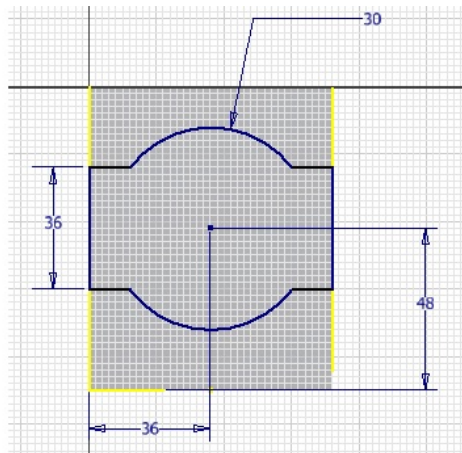

Figure 5-93 Sketch for the cut feature
- c. Create the next cut feature by defining a new sketch plane on the back face of the model, refer to Figures 5-93 and 5-94.
2. Delete all the reference geometries and then draw the sketch for the cut feature. Add required constraints and dimensions to the sketch, as shown in Figure 5-93.